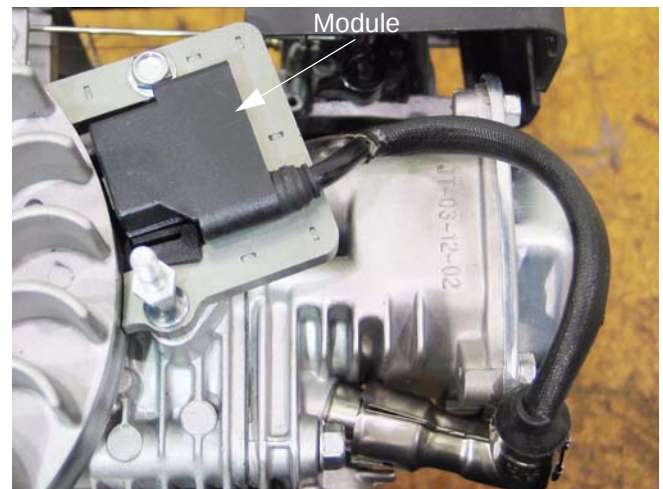

Figure 7.7
- 7.7. The ignition module for the Series 350 and Series 450 engines is mounted to the cylinder. See Figure 7.7.